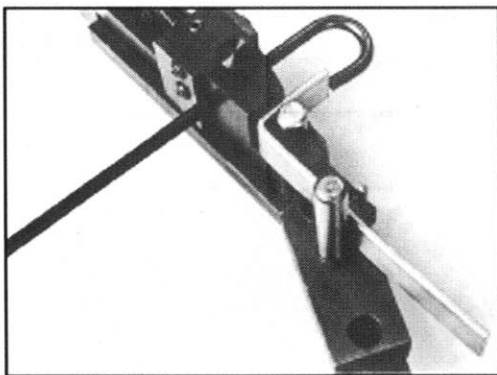

Figure 10
2. Simply insert the gauge into the side of the bender so that the end of it is the exact distance away from the bender for the length of stock you need. Tighten the gauge clamp (#24) as shown in Figure 10.